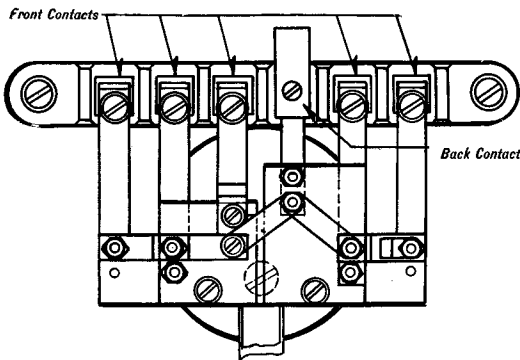

Fig. 7—One Back and Five Front Contacts
- (a) One back and five front contacts (Figures 7 and 15).